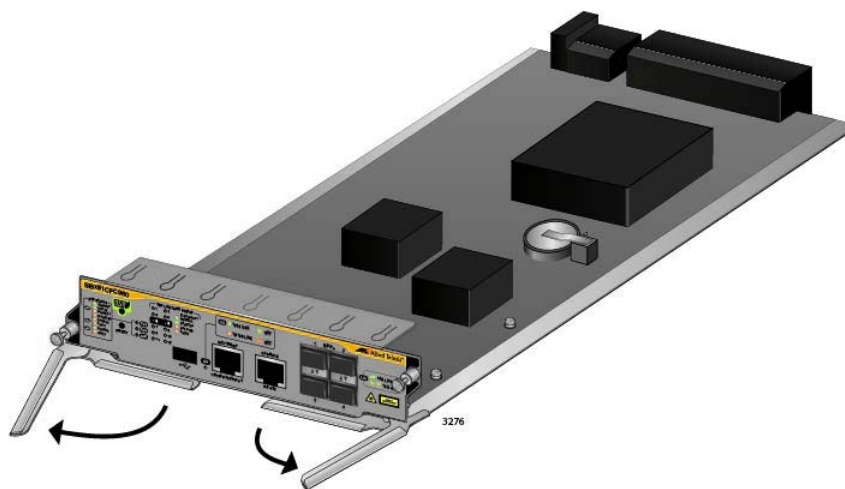

Figure 79. Opening the Locking Handles on the AT-SBx81CFC960 Controller Fabric Card
- Move the locking handles on the front panel to the open position, as shown in Figure 79.